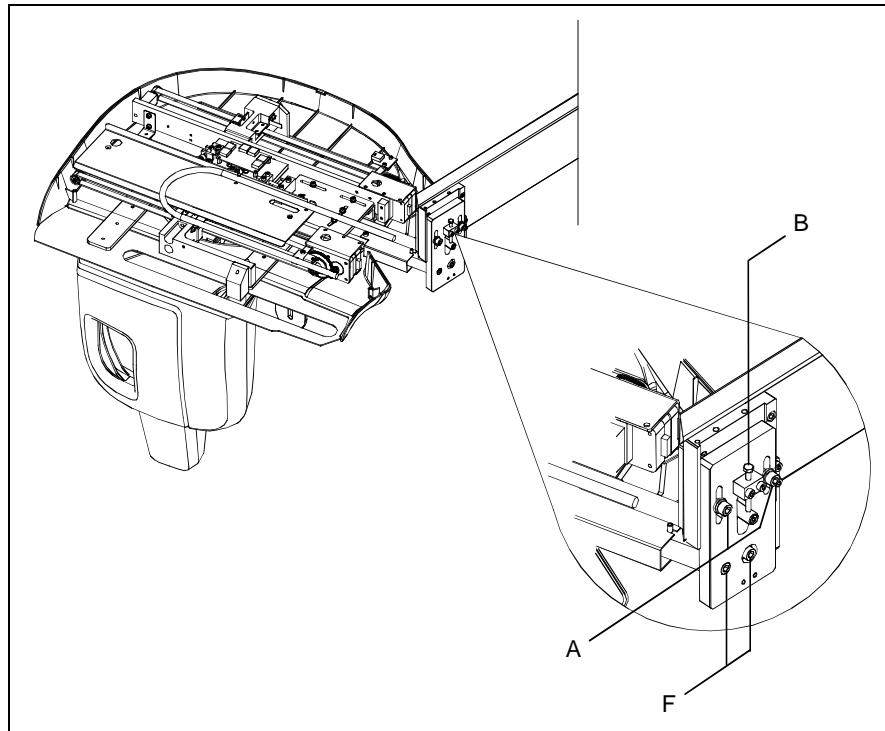
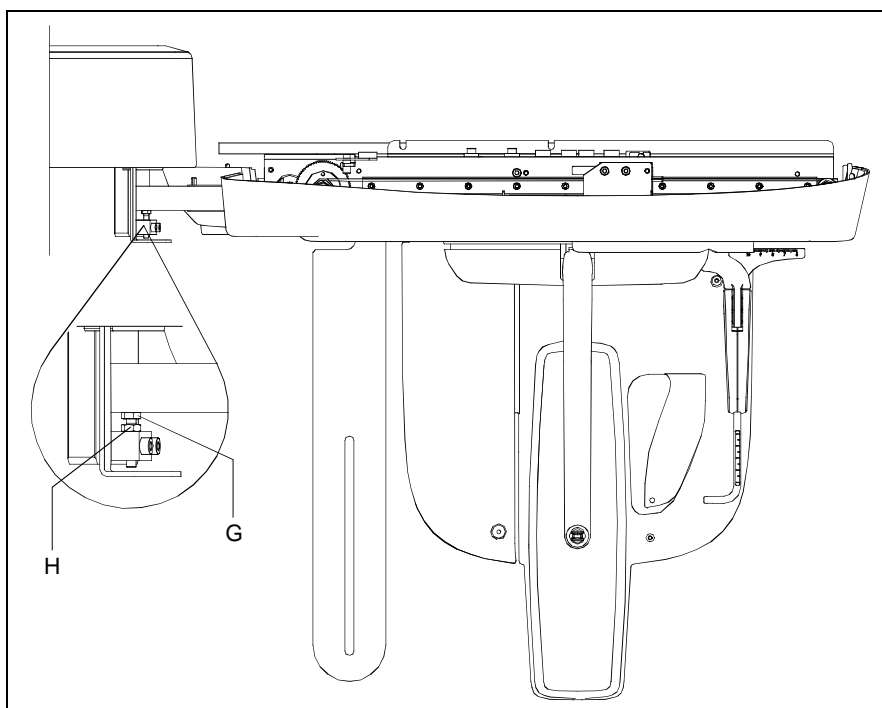

Figure 9-28
Figure 9-29
- 16.** If it will be necessary to change the height of the CEPH arm, loose the two screws "A" (Figure 9-28), and acting on the screw "B" adjust the height of the Ceph group. Repeat the exposure until the vertical alignment is reached. Tighten the loosened screws "A".
- 18.** To adjust the vertical alignment between the two rings, loose the two screws "F" (Figure 9-28) and adjust the position of the arm acting on screw "G" (Figure 9-29). Once the aligned position has been reached (test exposures are required), tighten bolt "H" (Figure 9-29) and tighten screws "F".